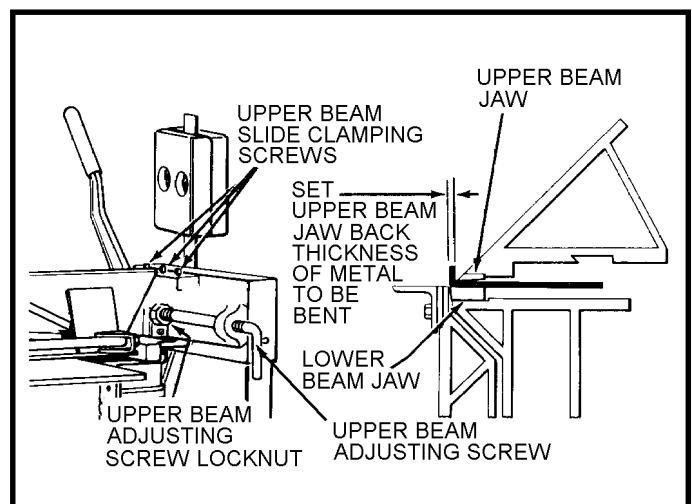
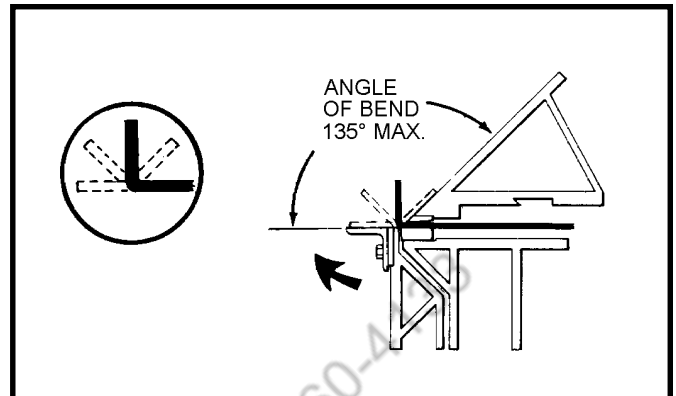
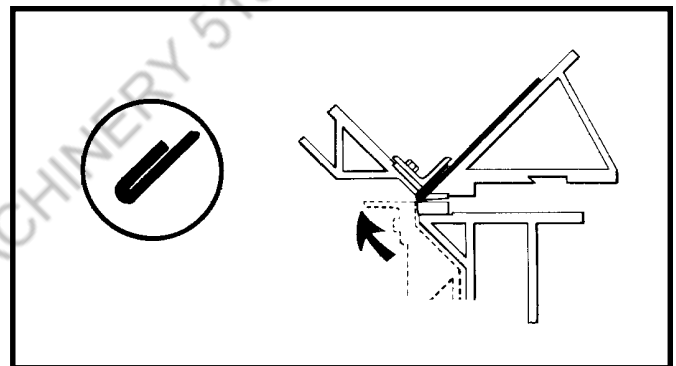
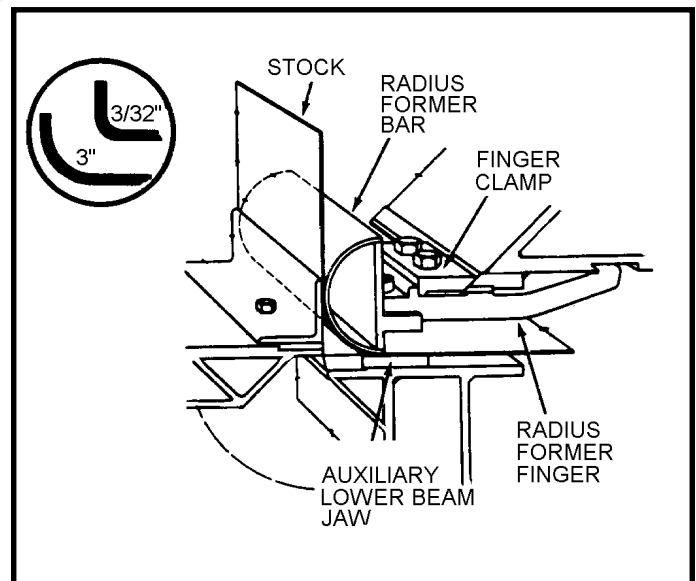

Figure 5. Adjustment of Brake Jaws for Material Thickness
Figure 8. Straight Bending
Figure 9. Flattened Seam Bending
Figure 15. Radius Bending
3. Loosen the Upper Beam Slide Clamping Screws (figure 5) and Upper Beam Adjusting Screw Lock Nuts at both ends of brake. Set entire front edge of Upper Beam Jaw back from the Lower Beam Jaw the thickness of the metal to be bent by turning the Upper Beam Adjusting Screws back as necessary. Retighten all screws and nuts.
Set Upper Beam Jaw back to thickness of metal to be bent. (See figure 5). Bends up to 135° may be achieved by raising the Apron until the desired angle of bend is obtained. (See figure 8).
Bend metal to full 135° angle as explained above (figure 8). Remove metal from between the jaws and reposition it against the Upper Beam as shown in figure 9. Lift Apron to flatten seam.
3. When using a 1 1/2" or larger Radius Forming Bar, an Auxiliary Lower Beam Jaw is required and should be inserted in position behind the lower Beam Jaw (figure 15).
4. Loosen the Upper Beam Slide Clamping Screws (figure 5) and Upper Beam Adjusting Screw Lock Nuts at both ends of brake. Move the entire Upper Beam back far enough to accommodate the assembled Radius Former Finger and Bar (figure 15).
6. Move Upper Beam back or forward as necessary until front edge of Radius Former Bar is back from the Lower Beam Jaw the thickness of the metal to be bent. (see figure 15). Tighten all Upper Beam Slide Clamping Screws and Adjusting Screw Lock Nuts.